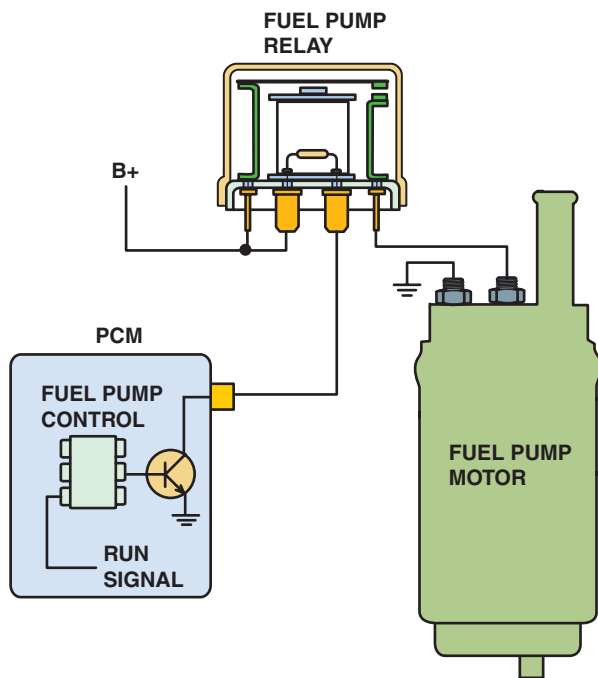

FIGURE 71-10 A typical low-side driver (LSD) which uses a control module to control the ground side of the relay coil.
- 1. Low-side drivers.** The low-side drivers (LSDs) are transistors inside the computer that complete the ground path of relay coil. Ignition (key-on) voltage and battery voltage are supplied to the relay. The ground side of the relay coil is connected to the transistor inside the computer. In the example of a fuel pump relay, when the transistor turns “on,” it will complete the ground for the relay coil, and the relay will then complete the power circuit between the battery power and the fuel pump. A relatively low current flows through the relay coil and transistor that is inside the computer. This causes the relay to switch and provides the fuel pump with battery voltage. The majority of switched outputs have typically been low-side drivers. ● **SEE FIGURE 71-10.**